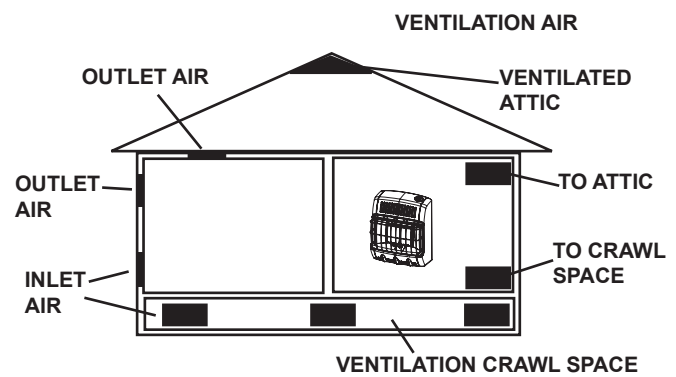

Figure 3.
- B. Vent room directly to the outdoors. See Ventilation Air From Outdoors (Fig. 3).